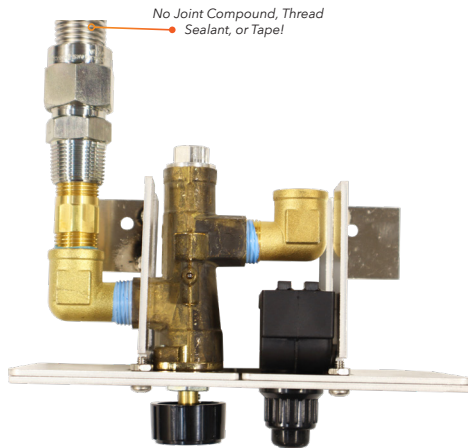

Figure 10: Connecting the Flex Line
**4.4 DO NOT USE ANY JOINT COMPOUND, THREAD SEALANT, OR PLUMBING TAPE ON THE FLARED END OF FLARED FITTINGS – DOING SO CAN CAUSE LEAKS!** Attach the female flared end of the Flex Line to the male flared end of the hose adapters on the Valve Assembly **[See Figure 10]**